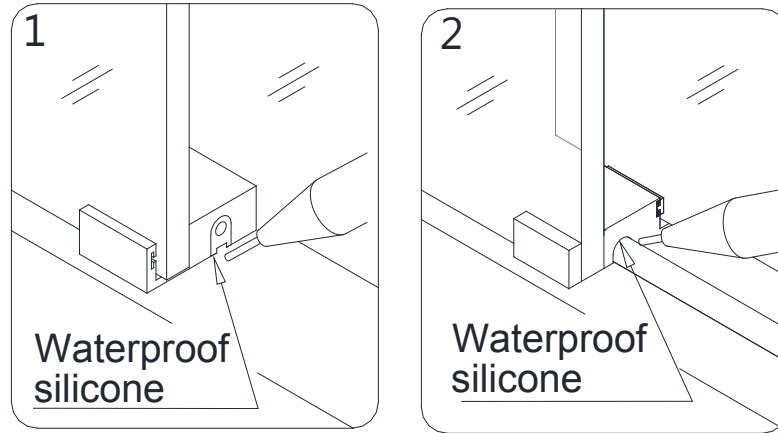

Fig. 23
20. Apply waterproof silicone at both ends of the **Anti-Splash Guard (#15)**, around the **Guide Block (#12)** and around the **Anti-Splash Guard Cap (#16)**. (**Fig. 23**)